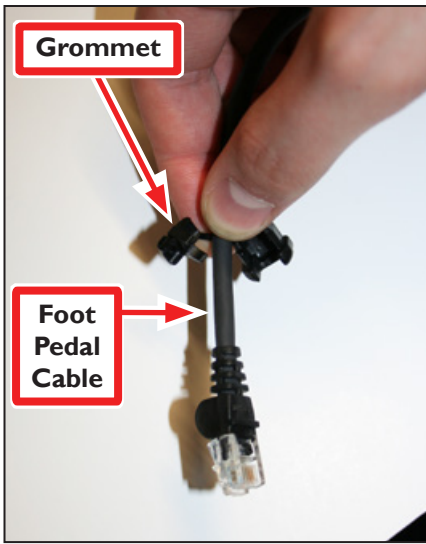

Figure 30
3. Carefully cut wire tie used to attach the extra Grommet to the Foot Pedal Cable. Then, clip the Grommet back onto the cord and insert it in the housing (see **Figure 30**).